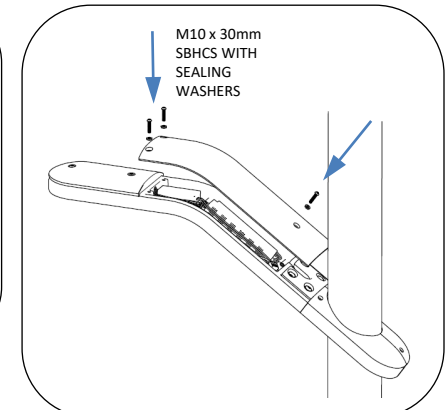

Fig. 12 – Attach luminaire cover
3. Using a 4mm hex key, remove (3) M6 x 30mm button head screws and sealing washers to remove the luminaire cover. See Fig. 12. Set aside, retain hardware.
6. Reattach luminaire cover with (3) M6 button head screws and sealing washers. See Fig. 12.